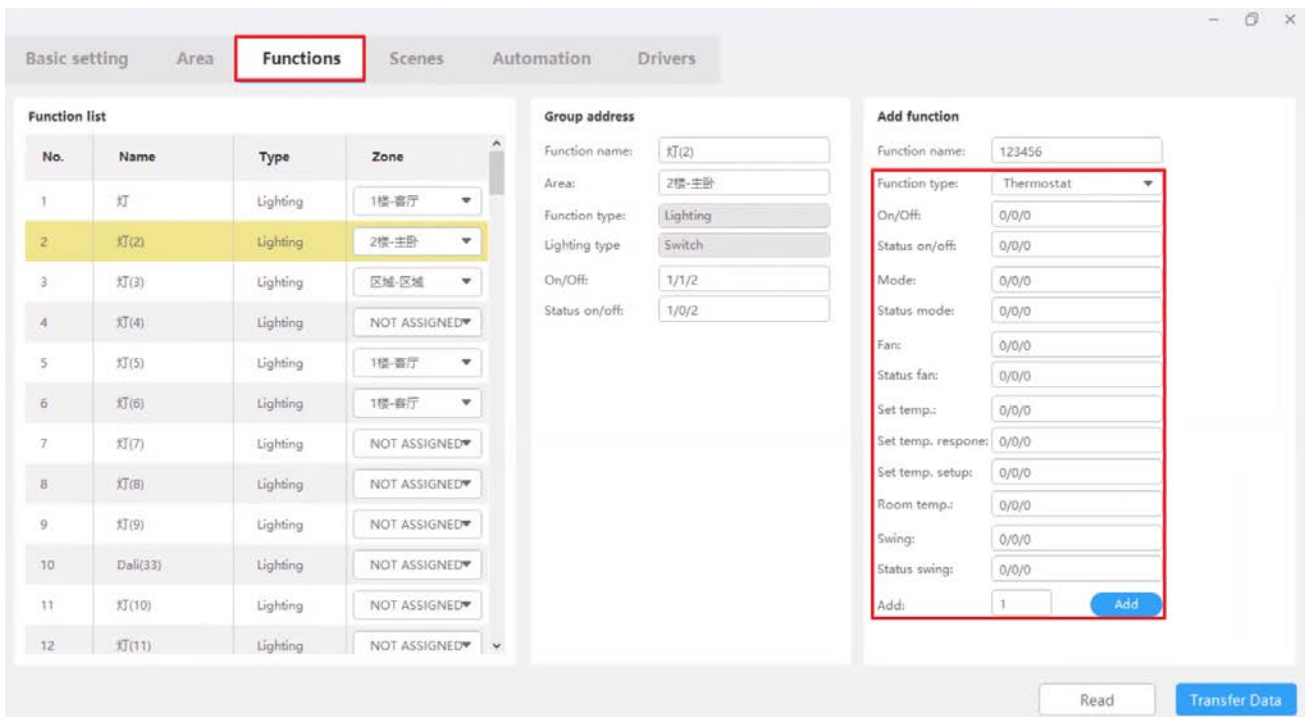

Figure 5-4 Thermostat
- Thermostat (refer to Air-condition): As shown in Figure 5-4, you can select thermostat